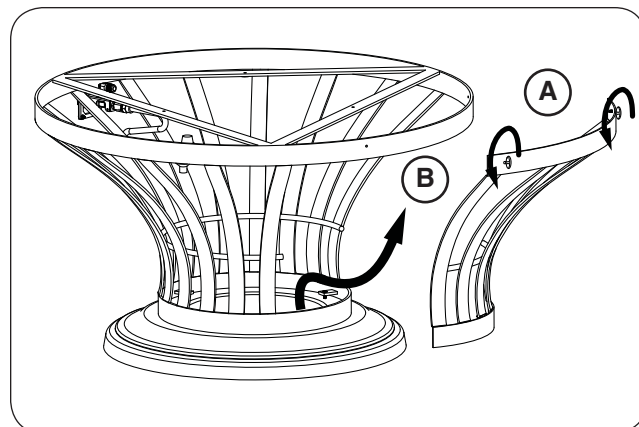

Fig. 28-2 Remove door
3. Remove the storage door by first turning the two thumb screws counter-clockwise, then carefully pulling the door up and outward (see Fig. 28-2). Store in a safe location.